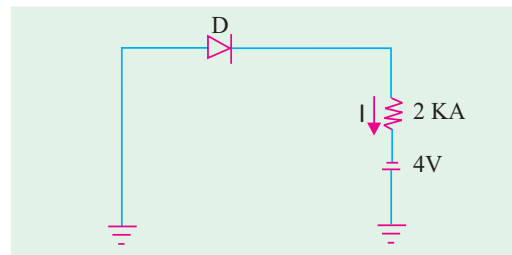

Fig. 52.56
16. The diode 'D' is ideal in the network shown in Fig. 52.56. The current 'I' will be.